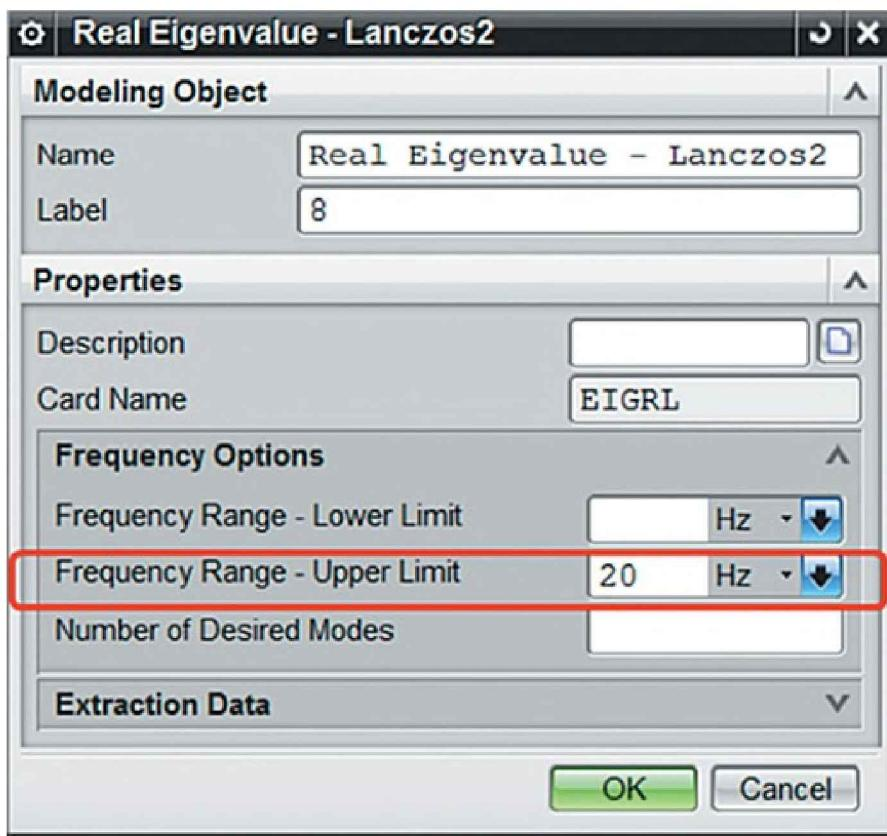

Figure 3.27. Specifying parameters for finding eigenvalues
- Under *Lanczos Data*, click **Create Modeling Object**. In the *Real Eigenvalue – Lanczos2* dialog box (Figure 3.27), in the *Frequency Range – Upper Limit* box, enter 20 Hz, then click **OK**. In the *Solution* dialog box, click **OK** to open the *Solution Step* dialog box.